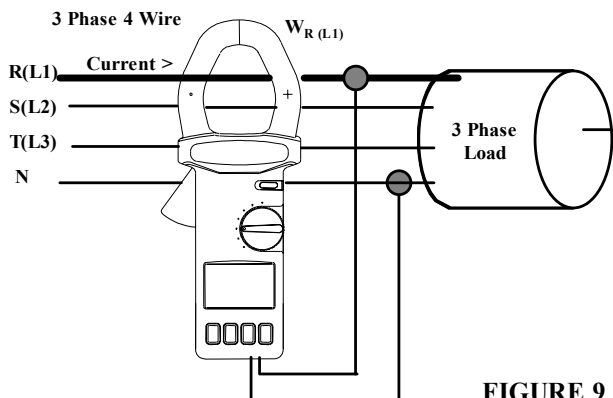

FIGURE 9
1. First, measure W_R (or W_{L1}) (Fig. 9).